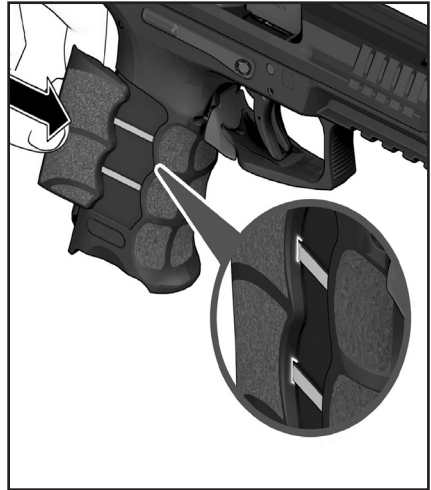

Figure 28
2. Install the two grooves on the inside of each grip panel onto the corresponding guide rails located on the outside of the frame (see Figure 28) and push the panels forward until they seat flush into the frame.